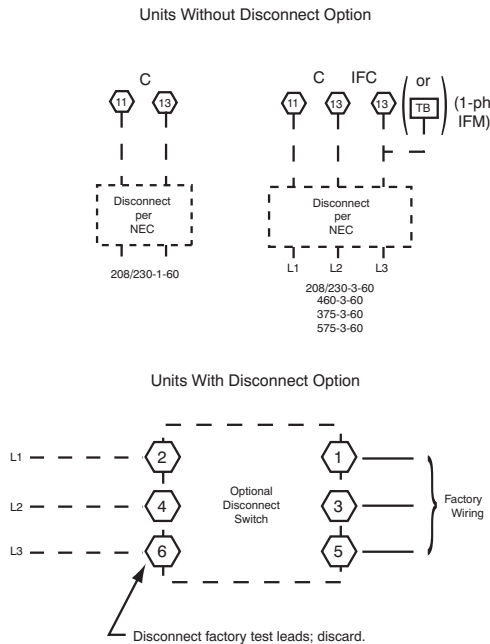

Fig. 24 - Power Wiring Connections
Field power wires are connected to the unit at line-side pressure lugs on compressor contactor C and indoor fan contactor IFC (see wiring diagram label for control box component arrangement) or at factory-installed option non-fused disconnect switch. Max wire size is #2 AWG (copper only). (See Fig. 24.)
The factory-installed option disconnect switch is located in a weatherproof enclosure located under the main control box. The manual switch handle is accessible through an opening in the access panel. Discard the factory test leads (see Fig. 24).
All field wiring must comply with NEC and all local codes. Size wire based on MCA (Minimum Circuit Amps) on the unit informative plate. See Fig. 24 and the unit label diagram for power wiring connections to the unit power terminal blocks and equipment ground. Maximum wire size is #2 ga AWG per pole.
2. Install power lines to terminal connections as shown in fig. 24.